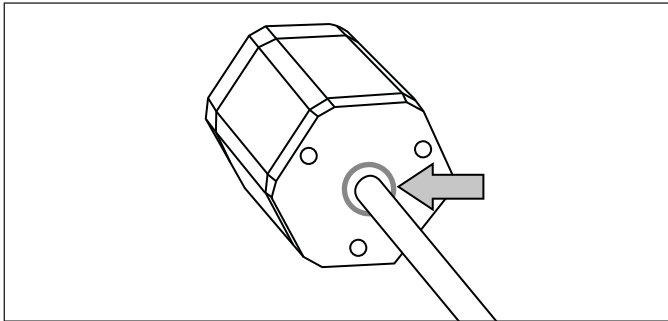

Fig. 22: Correct position of the O-ring in the groove of the sensor electronics housing
4. Ensure that the O-ring seal (part no. 562 003) is correctly inserted in the groove on the sensor electronics housing before inserting the base unit into the support tube and attaching the sensor electronics (Fig. 22).
3. Ensure that the O-ring seal (part no. 562 003) is correctly inserted in the groove on the sensor electronics before inserting the base unit into the support tube or the HFP profile and attaching the sensor electronics (Fig. 22).
- Ensure that the O-ring seal (part no. 562 003) is correctly inserted in the groove on the sensor electronics housing before inserting the base unit into the support tube and attaching the sensor electronics (Fig. 22).